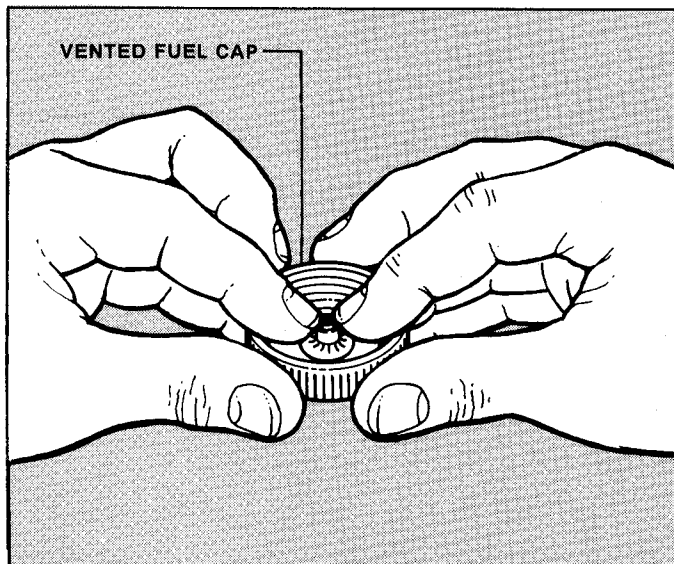

FIGURE 4.1
4.2 Remove the fuel tank cap. The cap is a vented cap and should be inspected. Looking at the inside face of the cap locate the end of the rubber vent. By squeezing the long ends toward each other, open the vent passage and inspect the opening to insure it is free of debris. See Figure 4.1.